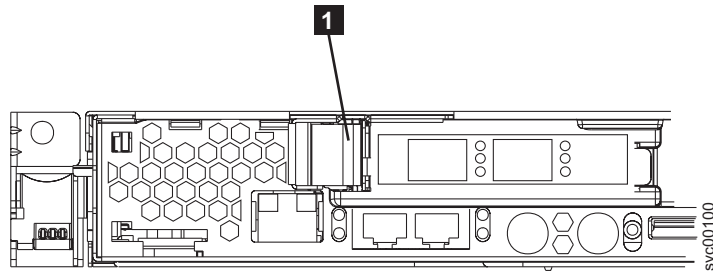

Figure 161. PCI slot 1 card retainer
1. Install the fibre-channel card in slot 1. See Figure 161 on page 435.